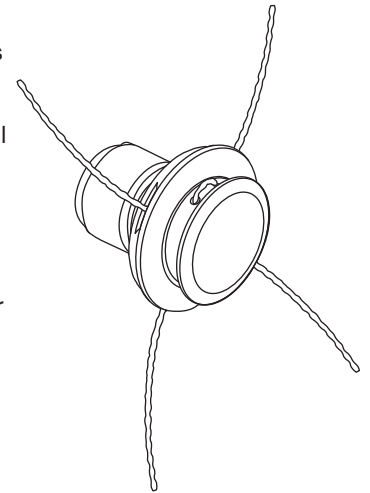

Fig. 14
8. Correctly installed, the four lines will all be the same length (Fig. 14).